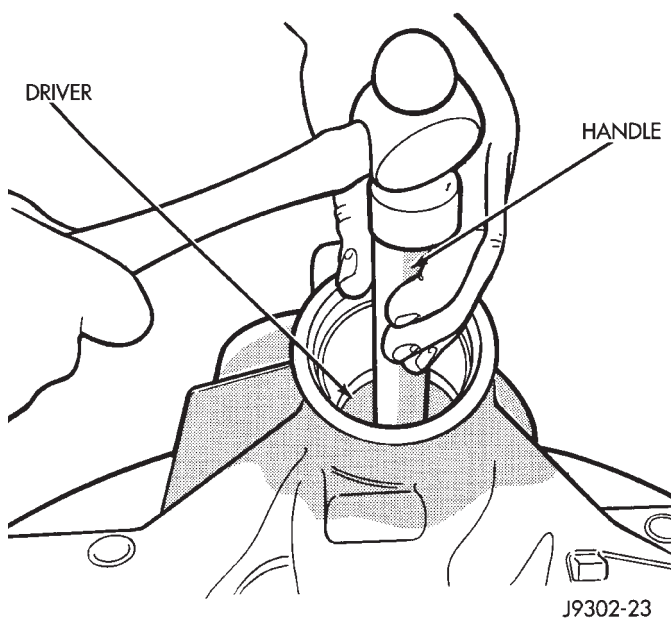

Fig. 22 Rear Bearing Cup Removal
(10) Remove the rear bearing cup from housing (Fig. 22). Use Remover D-162 and Handle C-4171.